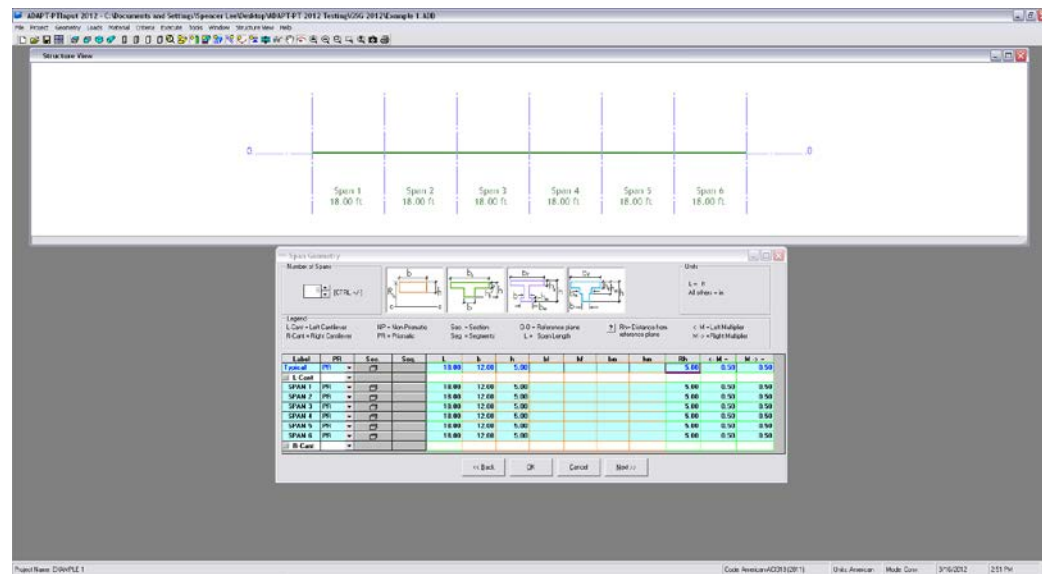

FIGURE 2.1-4
2.1.2.1 Enter Span Geometry (Fig. 2.1-4)